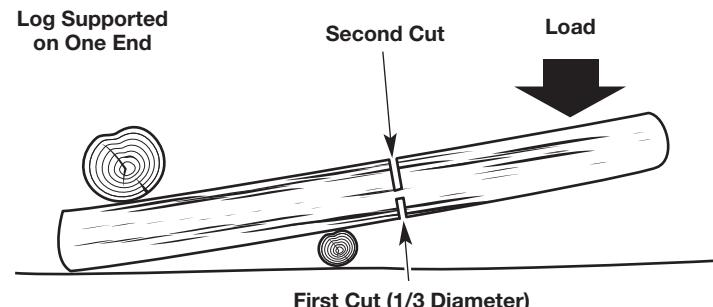

Fig. 17
- If the log is supported on one end (Fig. 17), make the first cut from below (*Underbucking*). Refer to *Underbucking*.